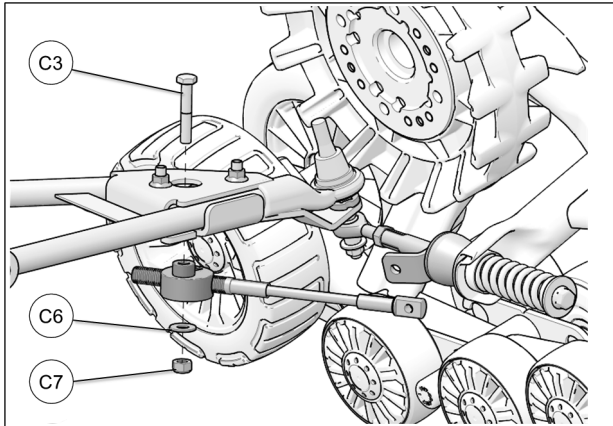

Fig. 22
12. Attach steering limiter cable assembly under anchor bracket using bolt (C3) inserted through bracket cover, washer (C6) and nut (C7). Tighten nut to 50 N•m [37 lb•ft]. Refer to Fig. 22